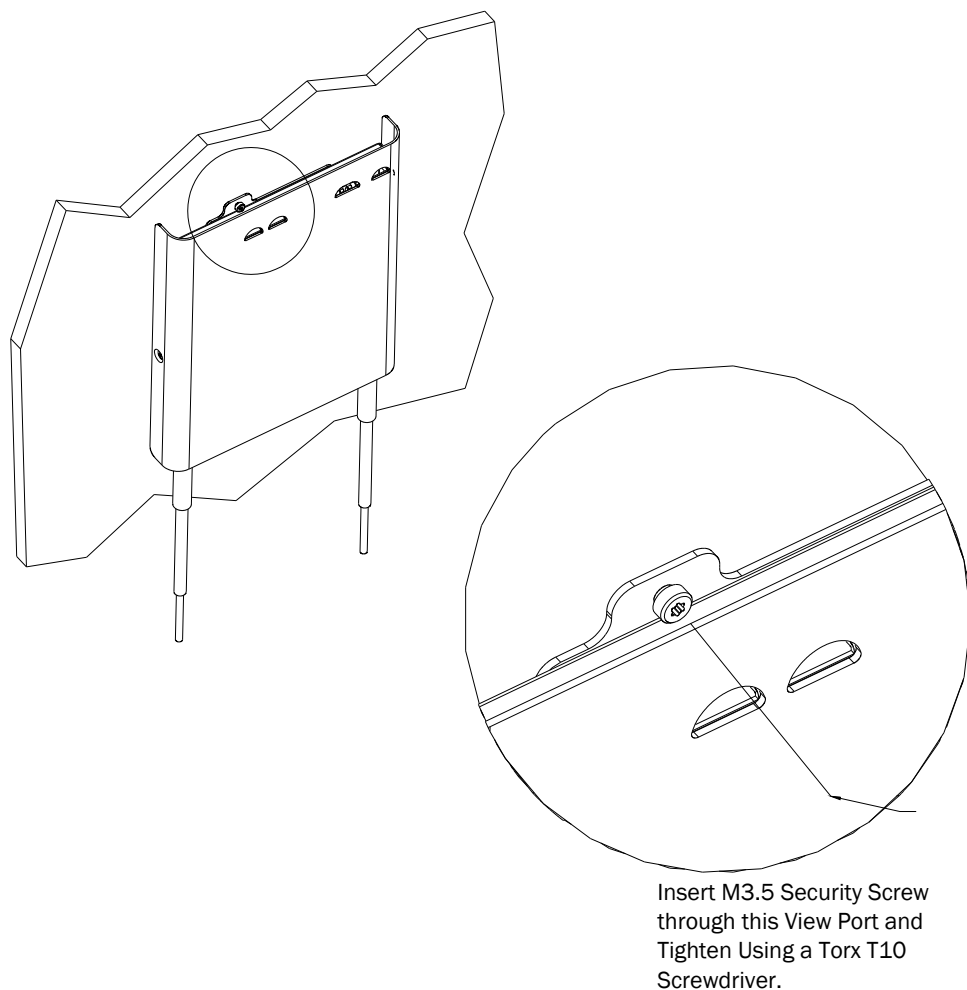

Figure 2-7: Securing the Core AP to its Quick Release Wall Plate
6. Using a Torx T10 screw driver, secure the Core AP to the wall plate by screwing the supplied M3.5 X 0.6 T-10 Torx Head security screw into the PEM nut in the wall plate as shown in Figure 2-7. Torque-tighten the screw to 10-inch lbs. Note that this safety screw is used to prevent the Core AP from sliding out of the wall plate.